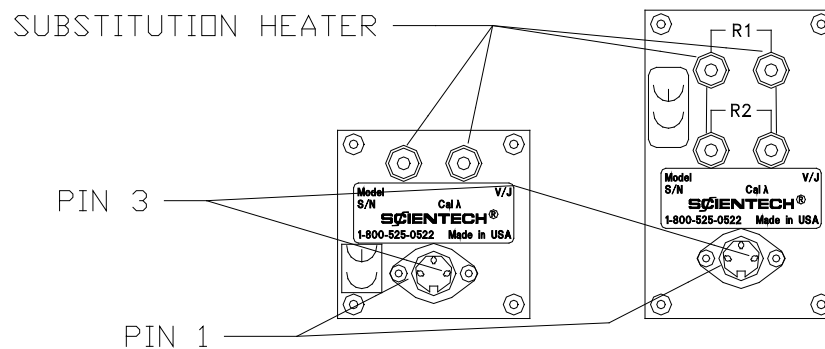

Figure 5. 100 & 200 mm Calorimeter Connector Panel
- A. Connect a DVM to the white jacks of the calorimeter. Refer to Figure 5.
For this procedure you will need to make an adapter cable to go from the calorimeter's DIN connector to the DVM. The voltage output is on pin 1 of the DIN connector and should be connected to the positive side of the DVM. Ground is on pin 3 and should be connected to the negative side. Pin 2 is not used. Refer to Figure 5.
When large aperture calorimeters are used without an power meter their interface module is not used. The output of the calorimeter is connected directly to the DVM or chart recorder. Large aperture calorimeters do not require any power. The voltage output is on pin 1 of the DIN connector and should be connected to the positive side of the DVM or chart recorder. Ground is on pin 3 and should be connected to the negative side. Pin 2 is not used. Refer to Figure 5.